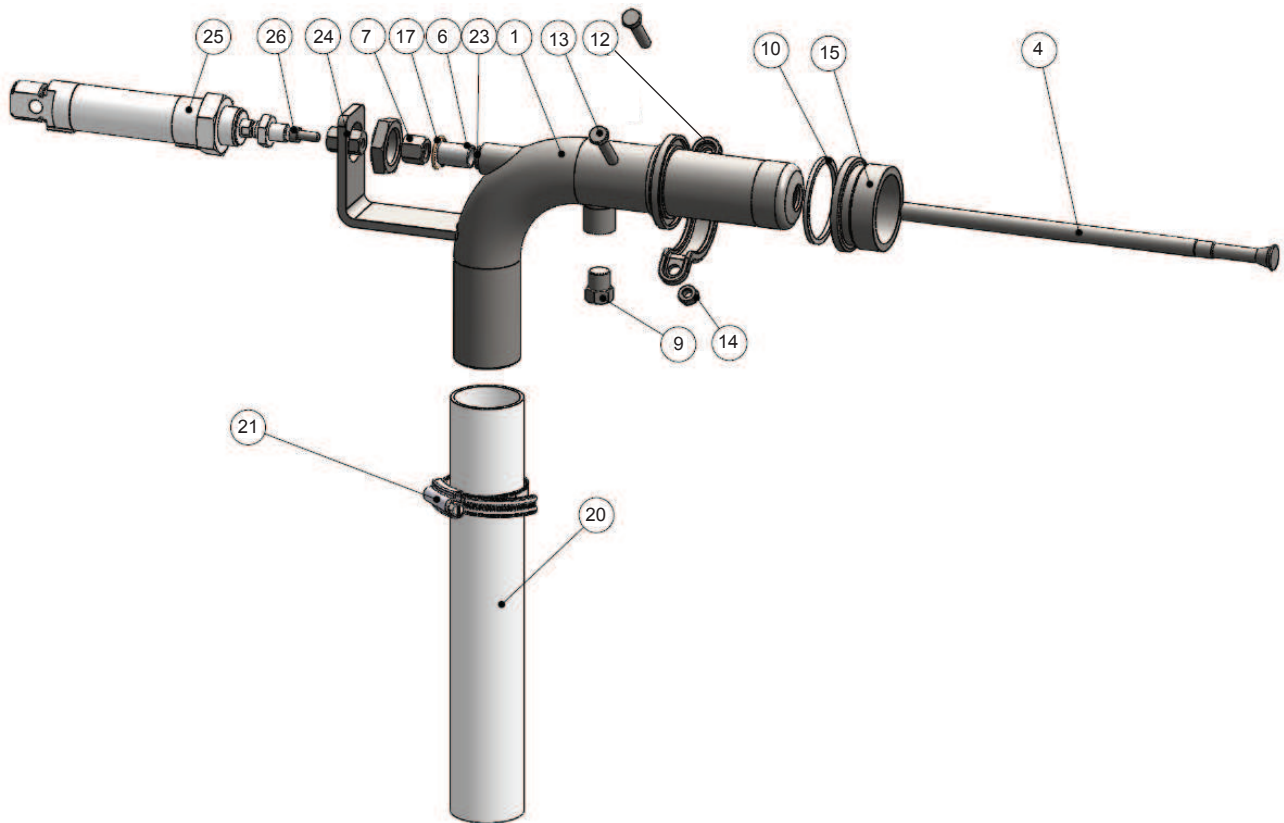

Figure 6-2 SAVE SA 2 2 AD 0
- SAVE function AD, Figure 6-2